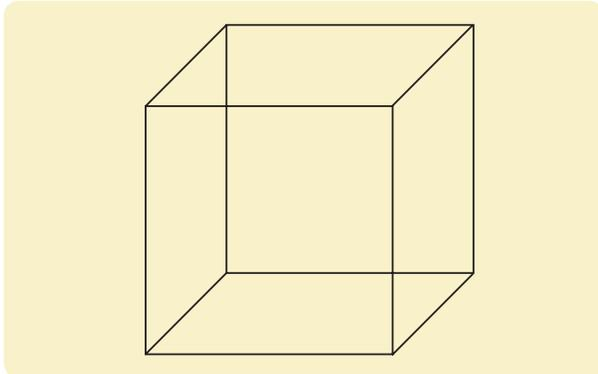

Figure 2.25 Construction lines used when drawing a box
- 4 Draw two more lines (construction lines) at 45° to show the other side of the box, as illustrated in Figure 2.25. They show how you constructed your drawing. Always draw all the construction lines for the object you are drawing. This makes your drawing more accurate. Complete the box by adding one vertical and two horizontal lines, as shown in Figure 2.25.